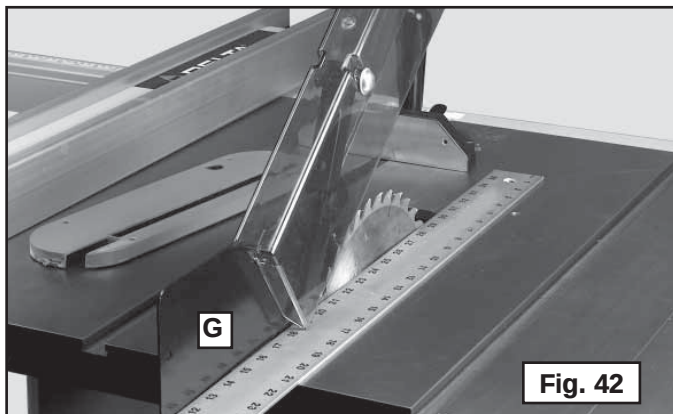

Fig. 42
10. Use a straight edge to see if the rear of the splitter (G) is aligned with the saw blade (Fig. 42). If alignment is necessary, loosen the screws (B) Fig. 34, align the splitter (G) with the saw blade, and tighten the screws (B) Fig. 34.